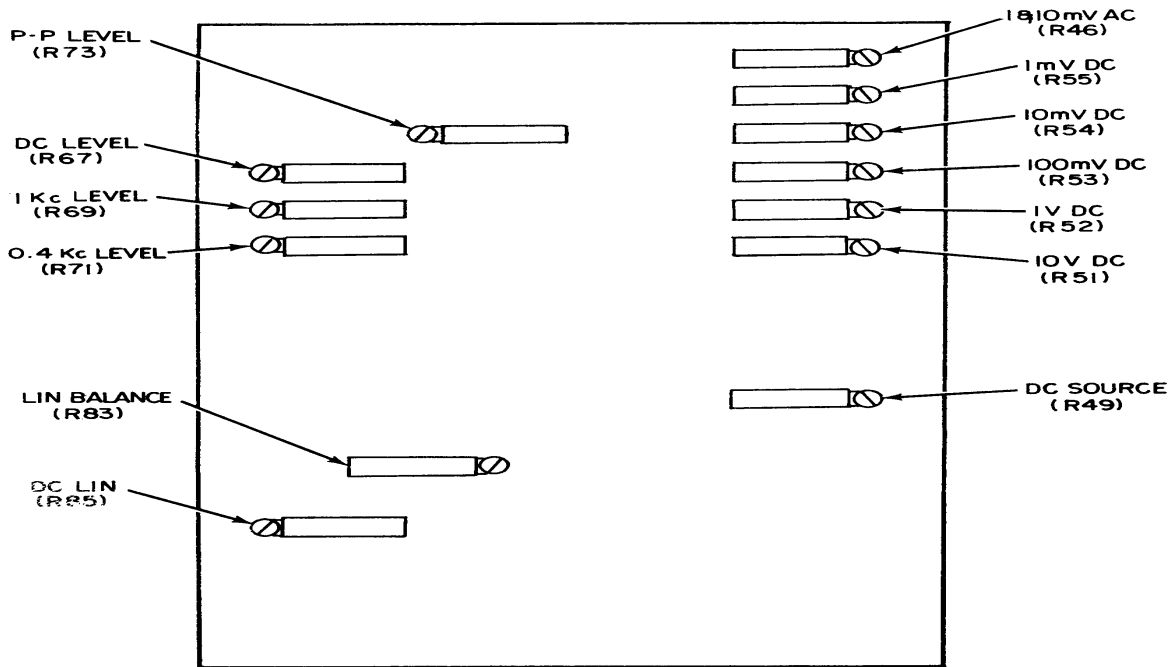
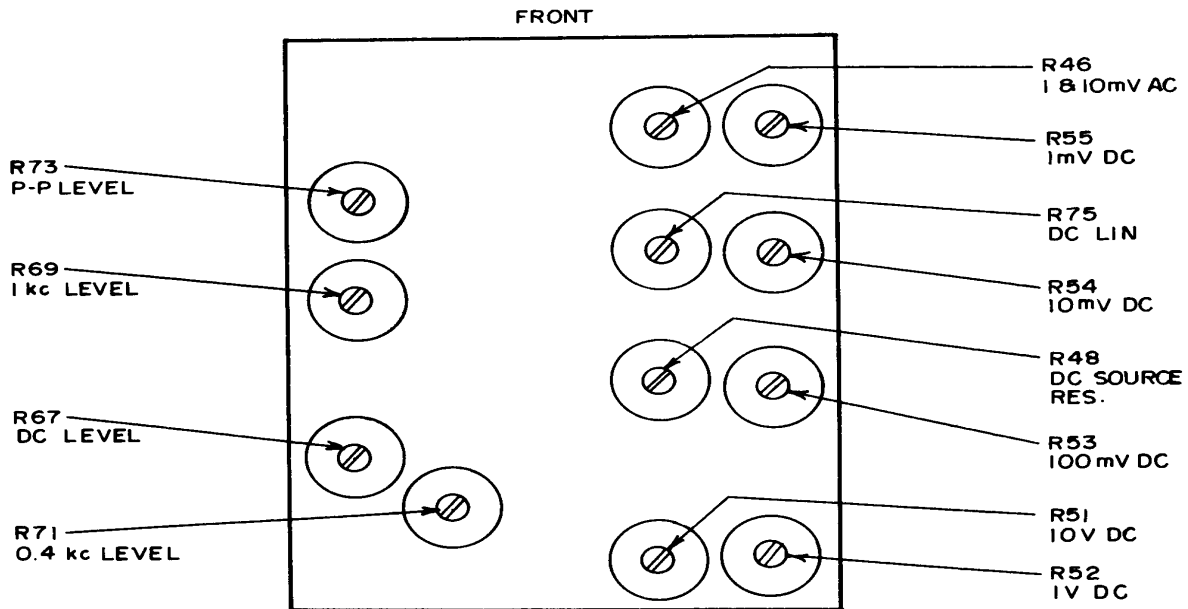

Figure 1. Model 421A (above S/N 901) adjustments.
Figure 2. Model 421A (below S/N 901) adjustments.
- (1) Adjust **R69 (1 kc LEVEL)** (fig. 1 or 2) for 100.0000 V ac (R).
- (2) Adjust **R71 (0.4 kc LEVEL)** (fig. 1 or 2) for 100.0000 V ac (R).
- (3) Adjust **R73 (P-P LEVEL)** (fig. 1 or 2) for 35.3500 V ac (R).
(4) Adjust **R46 (1 & 10 mV AC)** (fig. 1 or 2) for .0100 or .0010 V ac depending on range switch setting (R).
R46 (1 & 10 mV ac) (fig. 1 or 2) affects the 1 mV range as well as the 10 mV range and should be adjusted for best overall indication on both ranges.
(1) Set **RANGE** switch to **100 V** and **OUTPUT VOLTAGE** controls to **TEN0.00**.
(2) Adjust **R67 (DC LEVEL)** (fig. 1 or 2) for a 100.0-V dc indication on multimeter (R).
(3) Set **OUTPUT VOLTAGE** controls to **10.00**.
(4) Adjust **R85 (DC LIN)** (fig. 1) [**R75 (DC LIN)** (fig. 2) for TI with S/N below 900] for a 10.0 V dc indication on multimeter (R).
(5) Set **MODE** switch to **DC NEG**.
(6) Note multimeter indication and adjust **R83 (LIN BALANCE)** (fig. 1) to eliminate half the error from 10 V (R).
(7) Adjust **R85 (DC LIN)** (fig. 1) for a 10 V indication on multimeter (R).
(8) Set **MODE** switch to **DC POS**.
(9) Repeat technique of (1) through (8) as necessary for best overall indications.
(10) Set **RANGE** switch to **100 V** and **OUTPUT VOLTAGE** controls to **TEN0.00**.
(11) Disconnect resistant decade from TI.
(12) Measure and record TI output.
(13) Adjust resistance decade to 20 kilohms and reconnect to TI output.
(14) Adjust **R48 (DC RESOURCE RES)** (fig. 2) [**R49 (DC SOURCE)** (fig. 1) for TI with S/N below 900] to obtain multimeter indication of value recorded in (12) above, minus 4.762 V (R).
(15) Adjust resistance decade to 1 megohm.
(16) Set **RANGE** switch to **10 V** and **OUTPUT VOLTAGE** controls to **TEN.000**.
(17) Adjust **R51 (10 V DC)** (fig. 1 or 2) for a 10.0 V indication on multimeter (R).
(18) Set **RANGE** switch to **1 V** and **OUTPUT VOLTAGE** controls to **.TEN000**.
(19) Adjust **R52 (1 V DC)** (fig. 1 or 2) for a 1.0 V indication on multimeter (R).
(20) Set **RANGE** switch to **100 mV** and **OUTPUT VOLTAGE** controls to **TEN0.00**.
(21) Adjust **R53 (100 mV DC)** (fig. 1 or 2) for a 100 mV (millivolt) indication on multimeter (R).
- (22) Set **RANGE** switch to **10 mV** and **OUTPUT VOLTAGE** controls to **TEN.000**.
- (23) Adjust **R54 (10 mV DC)** (fig. 1 or 2) for a 10.0 mV indication on multimeter (R).
- (24) Set **RANGE** switch to **1 mV** and **OUTPUT VOLTAGE** controls to **.TEN000**.
- (25) Adjust **R55 (1 mV DC)** (fig. 1 or 2) for a 1.0 mV indication on multimeter (R).